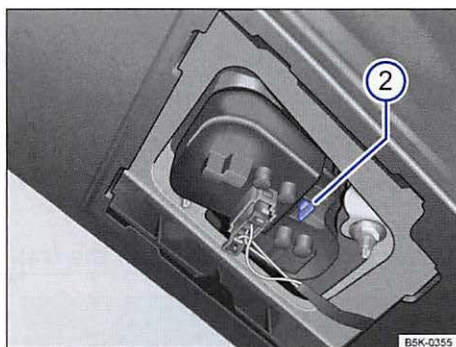

Fig. 173 In the rear hatch: Removing the bulb holder.
4. Release the latch ⇒ fig. 173 ② to remove the bulb holder.